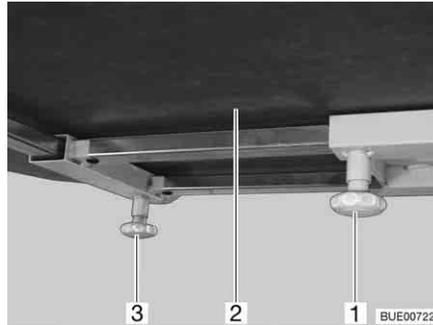

Fig. 98 Moving the table-top (alternative)
- Loosen knurled screw (Fig. 98,1).
- Move table-top (Fig. 98,2) to the desired position.
- Loosen knurled screw (Fig. 98,3).